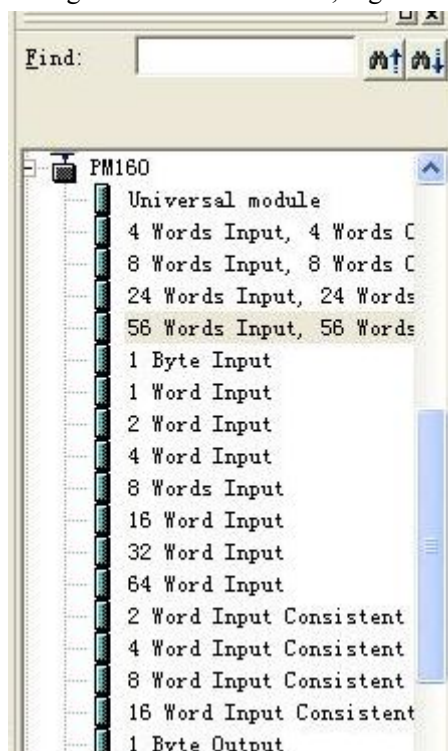

Figure 6
6. Here you can find your equipment in the right side of the window ; Figure 6